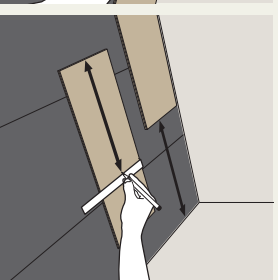

Figure 3
**6 For the last piece, measure the last plank to ensure a tight fit to the wall. Then cut away the marked piece and fit the end panel in the same way as the previous panels. When cutting the panel with a utility knife, make sure that you cut through the wear layer before breaking the panel. Figure 3**